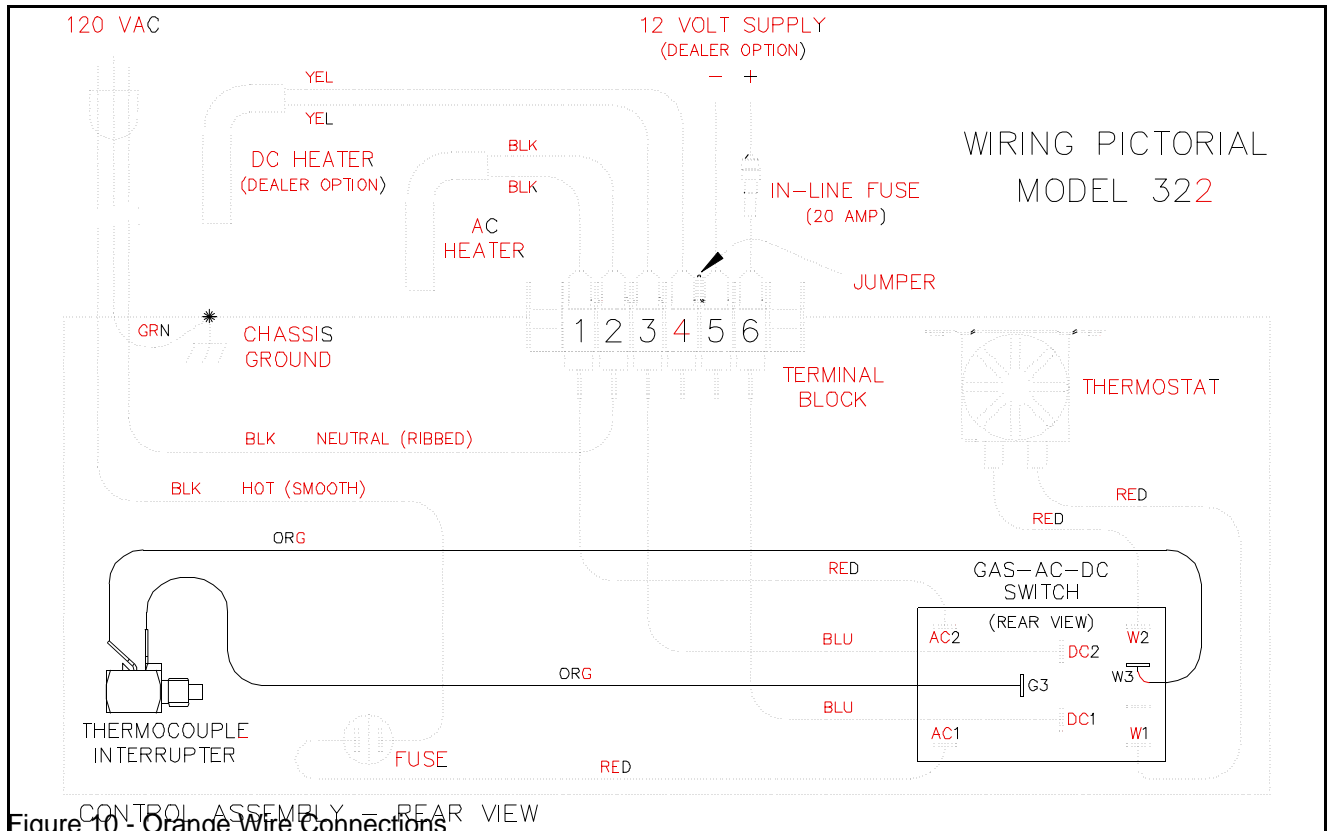

Figure 10 - Orange Wire Connections
2. Disconnect the two AC Heater leads from the terminal block located on top of the control panel (Terminals 1 & 2 in Figure 10).
10. Reconnect the AC Heater leads to the AC Heater terminals (Terminals 3 & 4 in Figure 10).